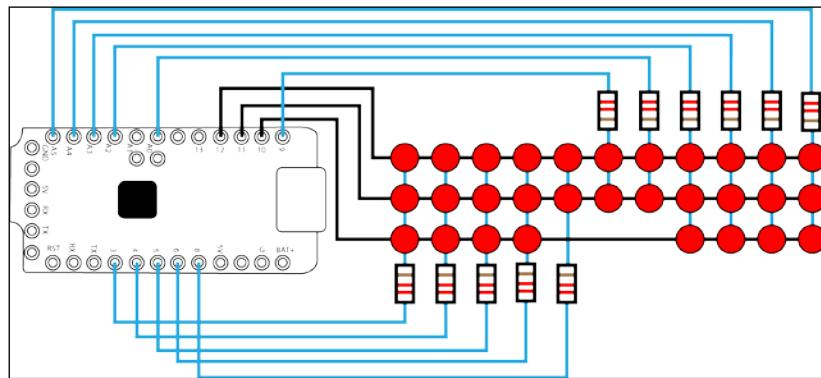

Figure 3.3: The matrix schematic
*Figure 3.3* illustrates the entire schematic of all the connections. To the right, you will find the matrix layout. All the negative sides of the LEDs are connected in rows and all the positive sides of the LEDs are connected in columns. When power is applied to one of the columns, and a ground connection is opened up on the negative rows, only one LED will light up. As you might have noticed, we have connected part of the matrix to the analog pins. Since there are not enough digital pins, we will use some of the analog pins instead. The analog pins can be operated as digital pins and their numbering continues on from pin **13**. In other words, analog pin **A1** is the same as digital pin **14**, and so on.
The following *Figure 3.3* illustrates the entire schematic of all the connections: